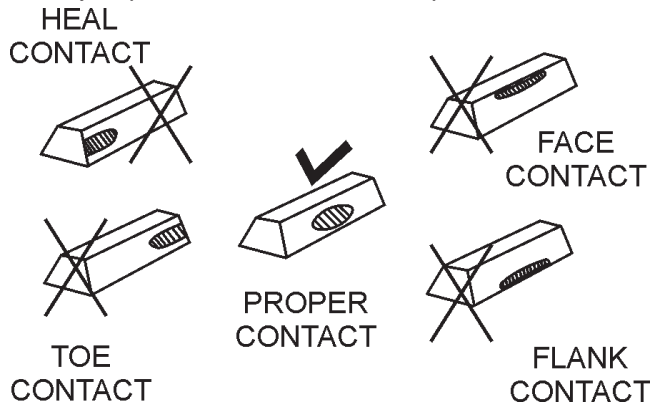

Figure 33. Gear Teeth Alignment
4. If gear teeth are not contacting properly (Figure 33), adjust pillow block to correct the problem.